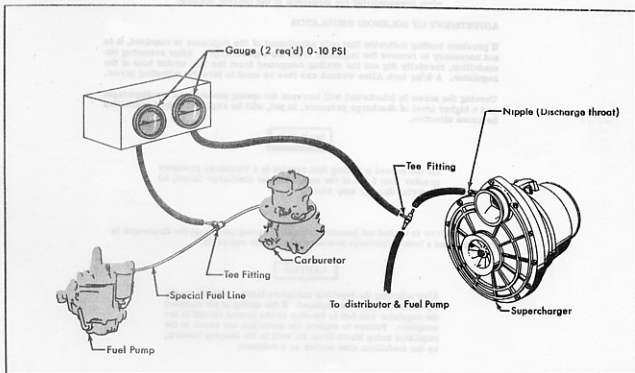

Figure 4
To insure maximum performance (and also check the setting of the solenoid regulator) it is necessary to measure the discharge pressure of the supercharger, and the fuel pressure at the carburetor. These measurements require the utilization of two, 0 - 10 psi gauges; one connected at the supercharger discharge throat, and the second connected in the fuel line at the carburetor. Figure 4 shows the suggested method of connecting the two gauges in the system. So connected, one gauge will indicate the output pressure of the supercharger, while the second gauge will indicate fuel pressure.
1. Attach pressure gauges as shown in Figure 4, with instruments in driver compartment. Use care not to crush the hose leads when closing hood.